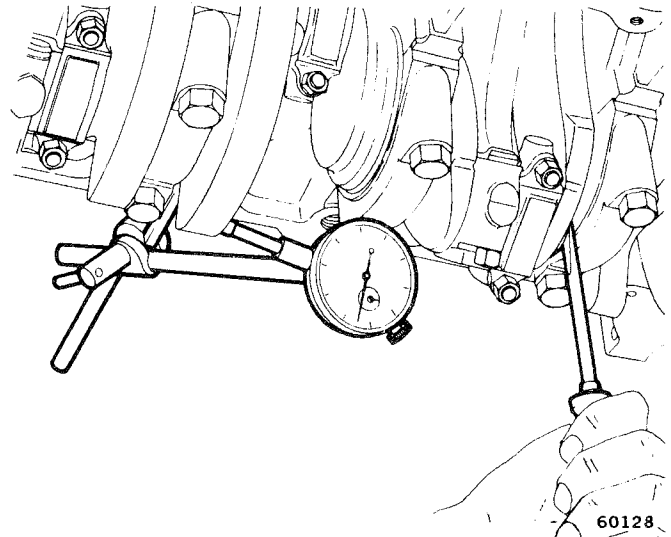

Fig. 1B-105 Crankshaft End Play Measurement
(1) Attach dial indicator to crankcase adjacent to No. 3 main bearing.
(2) Set dial indicator push rod on face of adjacent counterweight (fig. 1B-105).